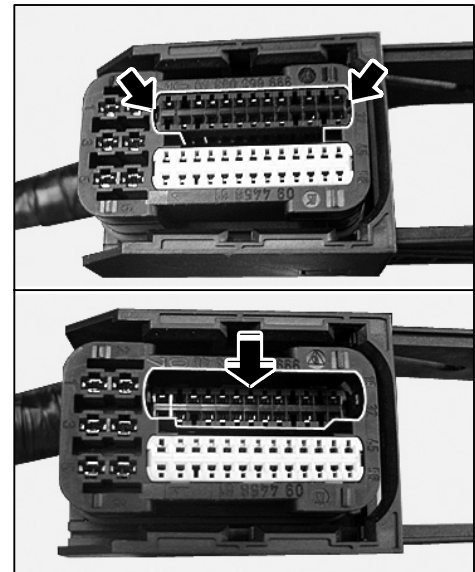

Figure 34
8.4.3 Carefully release locking lugs ⇒ *Figure 34 -arrows-* and press plug socket (chamber 1 – 32) out of the connector housing.